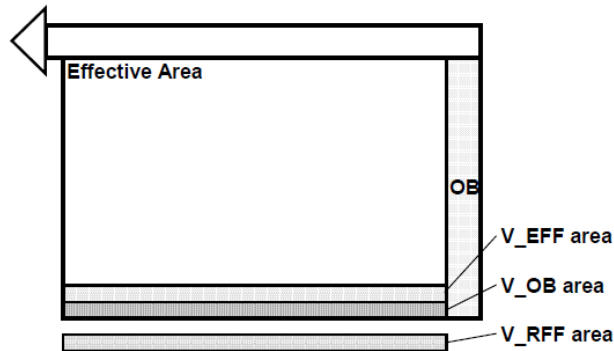

Figure 3. Vertical transfer efficiency test area.
- 6) See figure 3 below for the Test area.